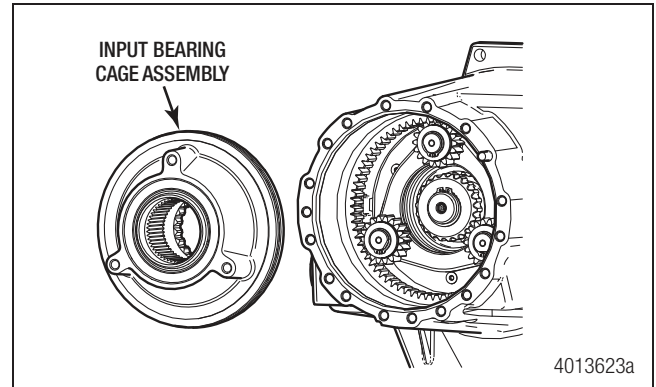

Figure 4.26
29. Use a suitable three-bolt flange puller to remove the input bearing cage assembly from the input opening. Refer to "Tools" on page 60. Figure 4.26.